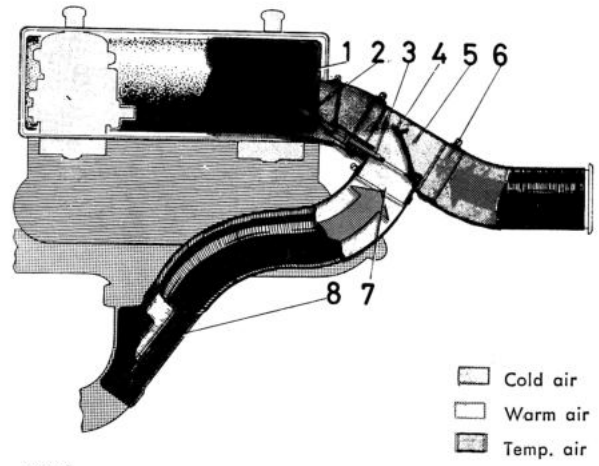

Fig. 2-70. Constant air temp. device
The engine is fitted with a **constant air temp. device**, see Fig. 2-70. (Not, however, on vehicles with right-hand drive.) This device consists of a flap housing (5), a hose (6) for cold air and a heat-resistant hose (7) for warm air as well as a heater plate (8), which is secured to the exhaust pipe. The thermostat (2), fitted in the flap housing, is inserted in the air cleaner housing and regulates the flap (4) by means of the flap control (3). The warm air taken at the exhaust pipe and the cold air taken at the front of the vehicle are regulated by the flap, mixed. The temperature of the mixture then influences the thermostat. In this way, the air supplied to the carburettors is maintained at a constant temperature ($30 \pm 5^\circ \text{C} = 87 \pm 42^\circ \text{F}$). This arrangement eliminates the occurrence of ice forming in the carburettors. Thanks to this system in conjunction with the temperature compensator, the vehicle can be driven more or less irrespective of the temperature of the atmosphere.